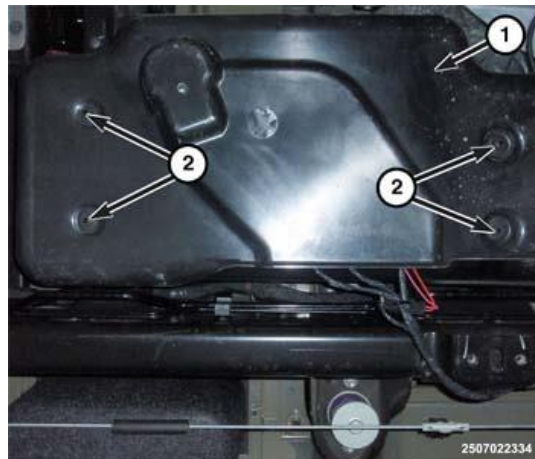

Figure 5 – DEF Tank Shield
102. Connect the MAF sensor connector, the air filter box and intake tube (Figure 5).
14. Remove the four nuts (2) retaining the DEF tank shield (1) (Figure 5).